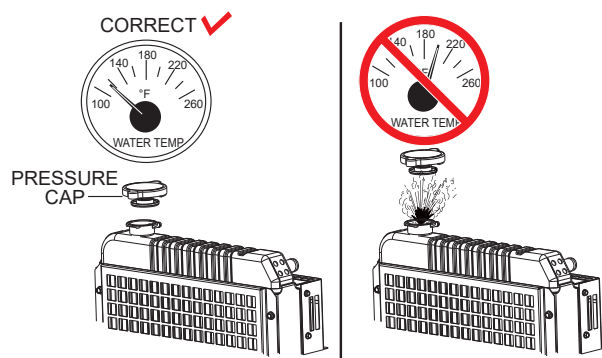

Figure 129. Radiator Pressure Cap Removal
1. Remove the **radiator pressure cap** (Figure 129) only if the coolant temperature is below 120°F (50°C).